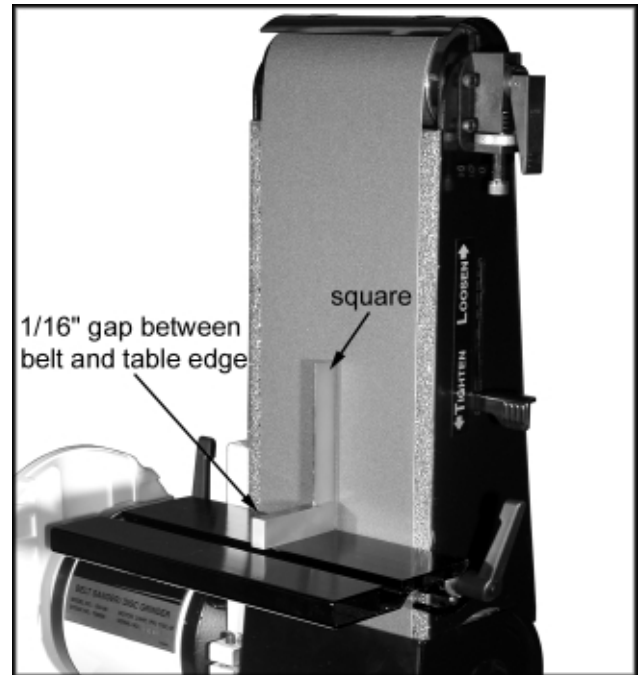

Fig. 4
1. Place a square on the sanding belt table with one edge along the graphite pad, or sanding belt (Figure 4).